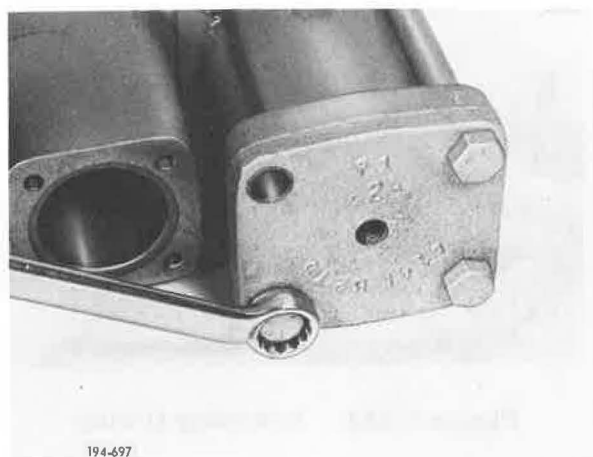

Figure 5-356. Removing Capscrews
9. Remove Lo/Direct shift cover capscrews. See Figure 5-356.